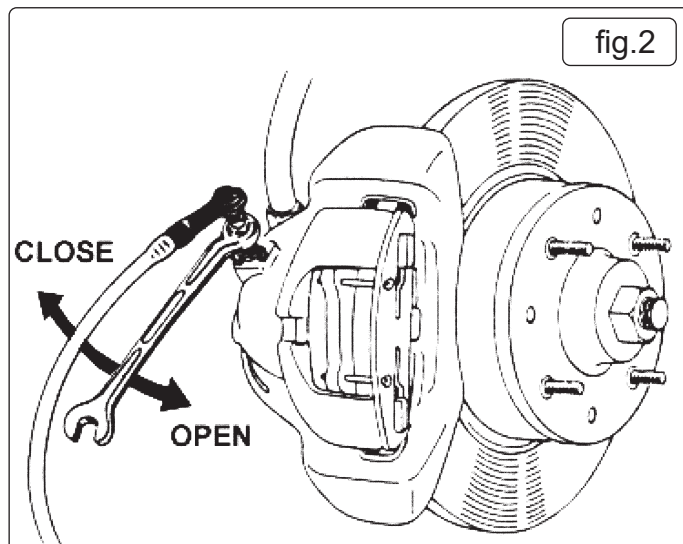

fig.2
- 4.1.3. Mount the rubber pipes onto the brake nipples on the front wheel and open the nipples about 1/4 of a turn. (See fig.2)
- 4.1.7. Close the brake nipples. (See fig.2)